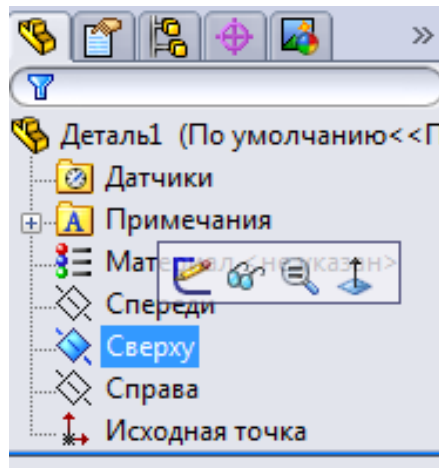

Figure 7.2 – Sketching a top view
7.2.4 Let's start the construction process with a horizontal parallelepiped. On the left side of the program there is a "Design tree", where we select the "Top" view. By clicking on the "Above" view once, a floating panel will open in front of you. Click on the first button "Sketch"  (figure 7.2).